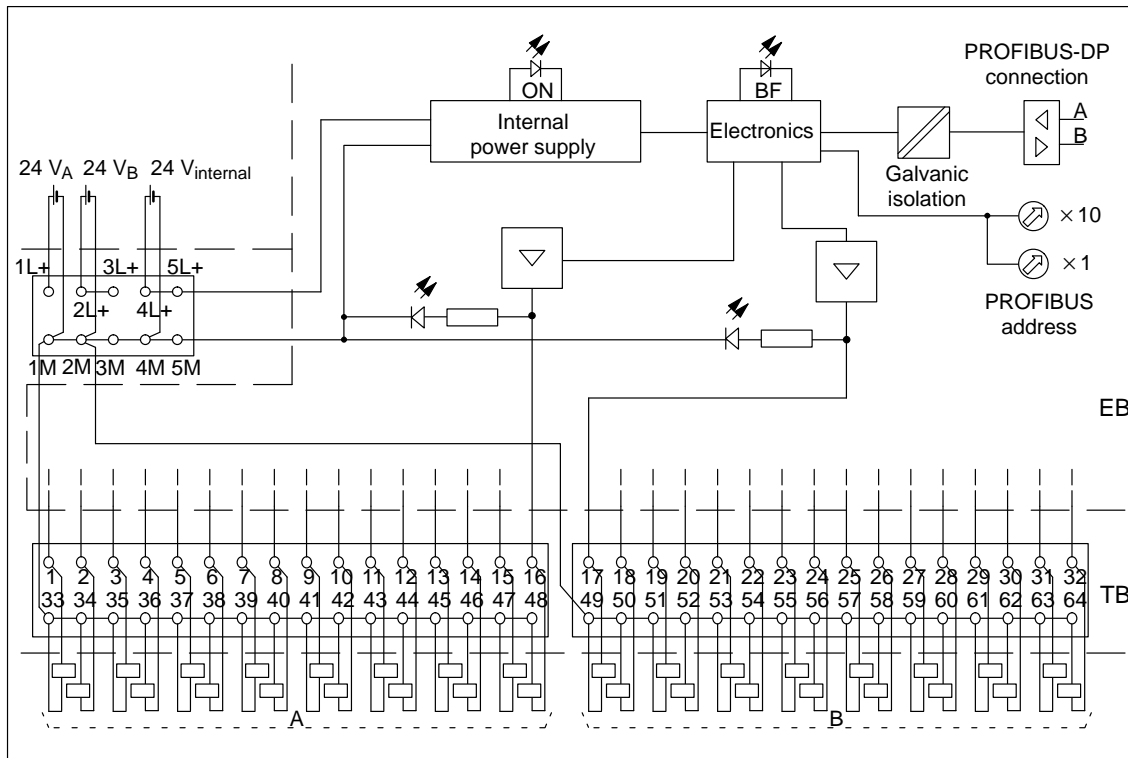

Figure 8-8 Block Diagram of the L 32 DO DC 24 V/0.5 A Electronics Block
**Block Diagram** Figure 8-8 shows the block diagram.